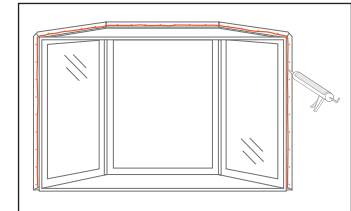

fig. 3
- Apply a continuous 3/8" nominal bead of caulk to the back side of the window mounting flange. DO NOT APPLY CAULK ACROSS BOTTOM SILL FLANGE OR WALL. (fig. 3)